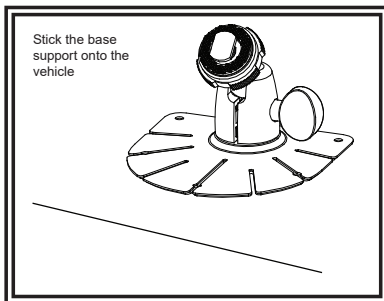

Figure 5
1. Select suitable position on vehicle and fix the base support. (Figure 5)